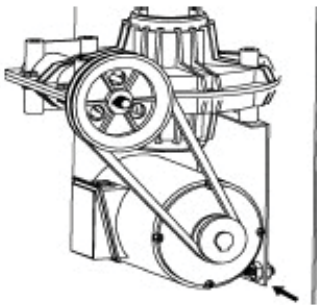

Fig 11
**Note:** in the event of turntable lose power, check to see if the belt is tight by removing the left side cover by unscrewing the screws; adjusting two screws located on the motor support, keeping a suitable distance between motor support and motor base; tightening the screws for the belt tension. (Fig 11)